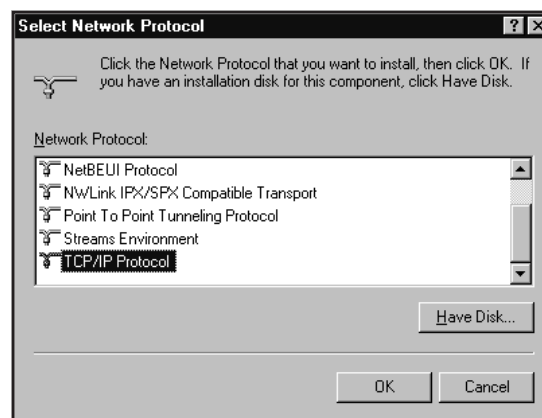

Figure 197 Select Network Protocol
3. It is now time to add the TCP/IP protocol. Select the Protocols notebook tab on the Network Settings screen and press the **Add** button to bring up the Select Network Component Protocol dialog (Figure 197).